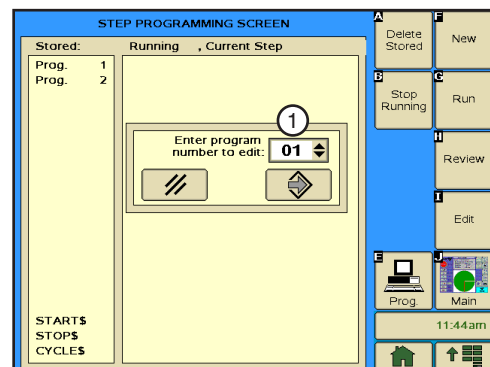

Figure 118-2 1. Program Number Field
3. Select the **Program Number** field and choose the number of the program you want to review. Refer to Figure 118-2.